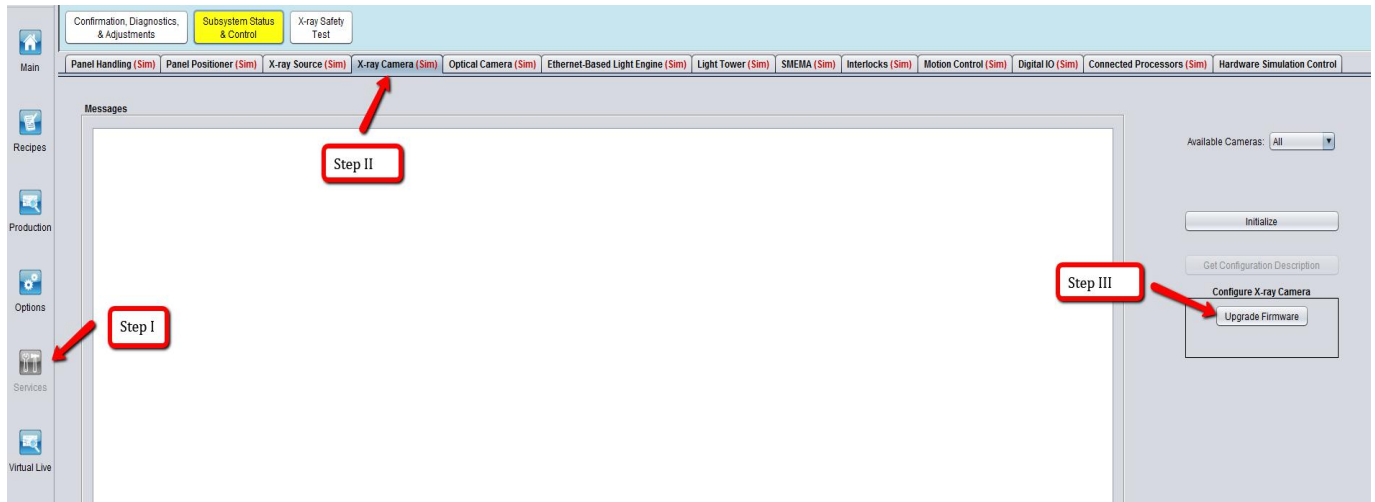

Figure 19 Camera Firmware Upgrade
17. Click “ Upgrade firmware” at X ray Camera Tab (Under Service Mode) as below Figure 19